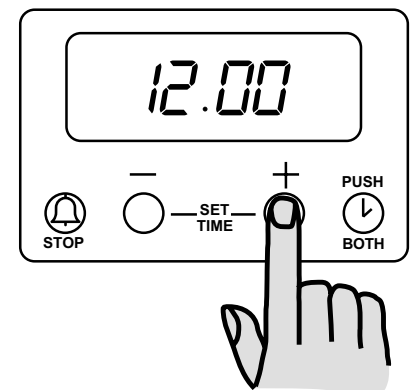

Fig. 2
2. Release buttons, then press button “+”: **12.00** will show in the display (See Fig. 2).